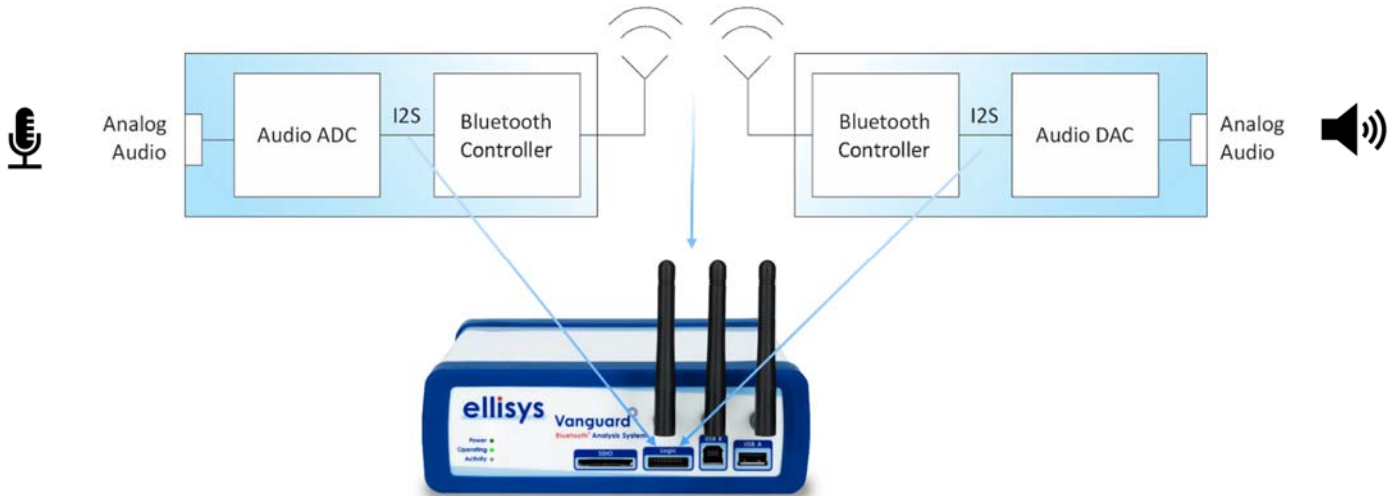

Figure 12 - Analyzer Setup to Capture Two Digital Audio Streams and Over-the-Air Traffic
**Without** the Audio Grabber, the analyzer can still provide capture of digital audio streams (one or more). This is depicted in Figure 12.